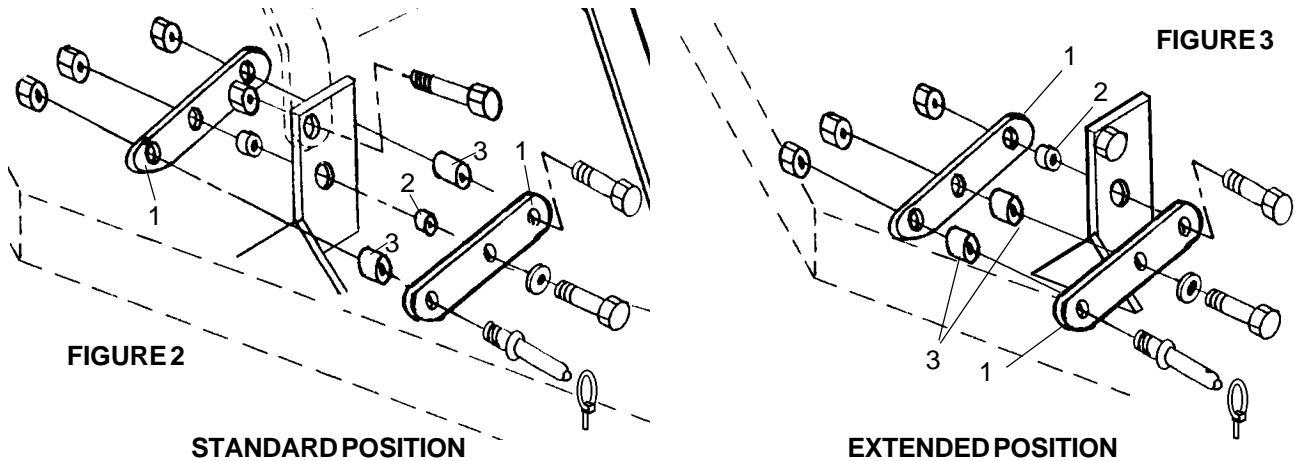

**FIGURE 1**
**NOTE:** Install rear braces in rear holes on deck if hitch pins are positioned in standard position. Install in front holes if hitch pins are in extended position. Attach the A-Frame Bars (3) to the lugs on the front of the deck with 5/8" x 1/2" bolts & 5/8" locknuts (4). Attach the other end of the A-Frame Bars (3) at the top and between the Rear Brace Bars (1) and Top Link (5) with 3/4" x 5-1/2" bolt, bushing & 3/4" nut (6). **FIGURE 1.**